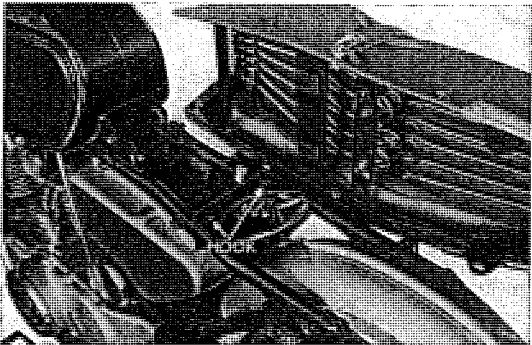

Fig. 4.44 Fitting seat
1. When the seat is fitted, after confirmation of secure hooking at the front section, the seat mounting bolt should be tightened. (Refer to Fig. 4.44)